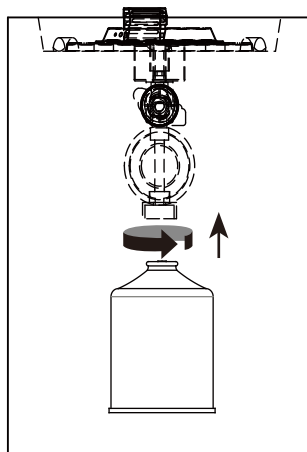

Figure 2
- (1). Before connecting, be sure there is no debris caught in the head of the burner or burner or burner ports.
- (2). Make sure the control knob is in the "OFF" position. Lubricate the threads of the regulator with petroleum jelly.
- (3). Line up threads on the gas cylinder with regulator.
- (4). Insert the gas cylinder.
- (5). Rotate the cylinder clockwise until they fit snugly together. **HAND TIGHTEN ONLY**. Be careful not to cross thread when screwing in cylinder (see Figure 2).
- (6). Perform leak test per "Checking for Leaks" section.